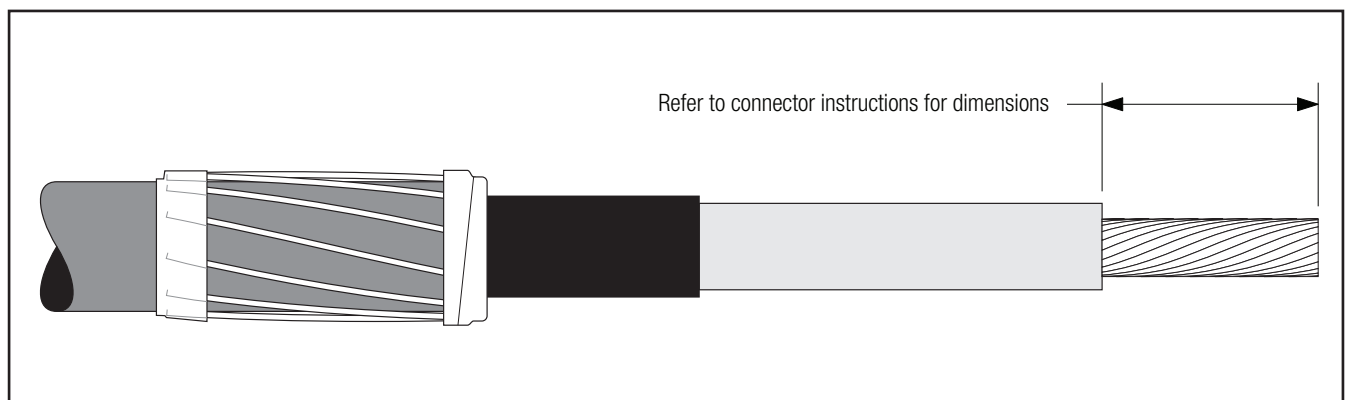

Figure 6
- 3.1 If using a 3M Shearbolt Connector QCI 1/0-350, refer to the instructions included with the connector for insulation cut-back dimension. Insulation removal length shall not exceed 2 3/4" (70 mm) from conductor end (*Figure 6*).